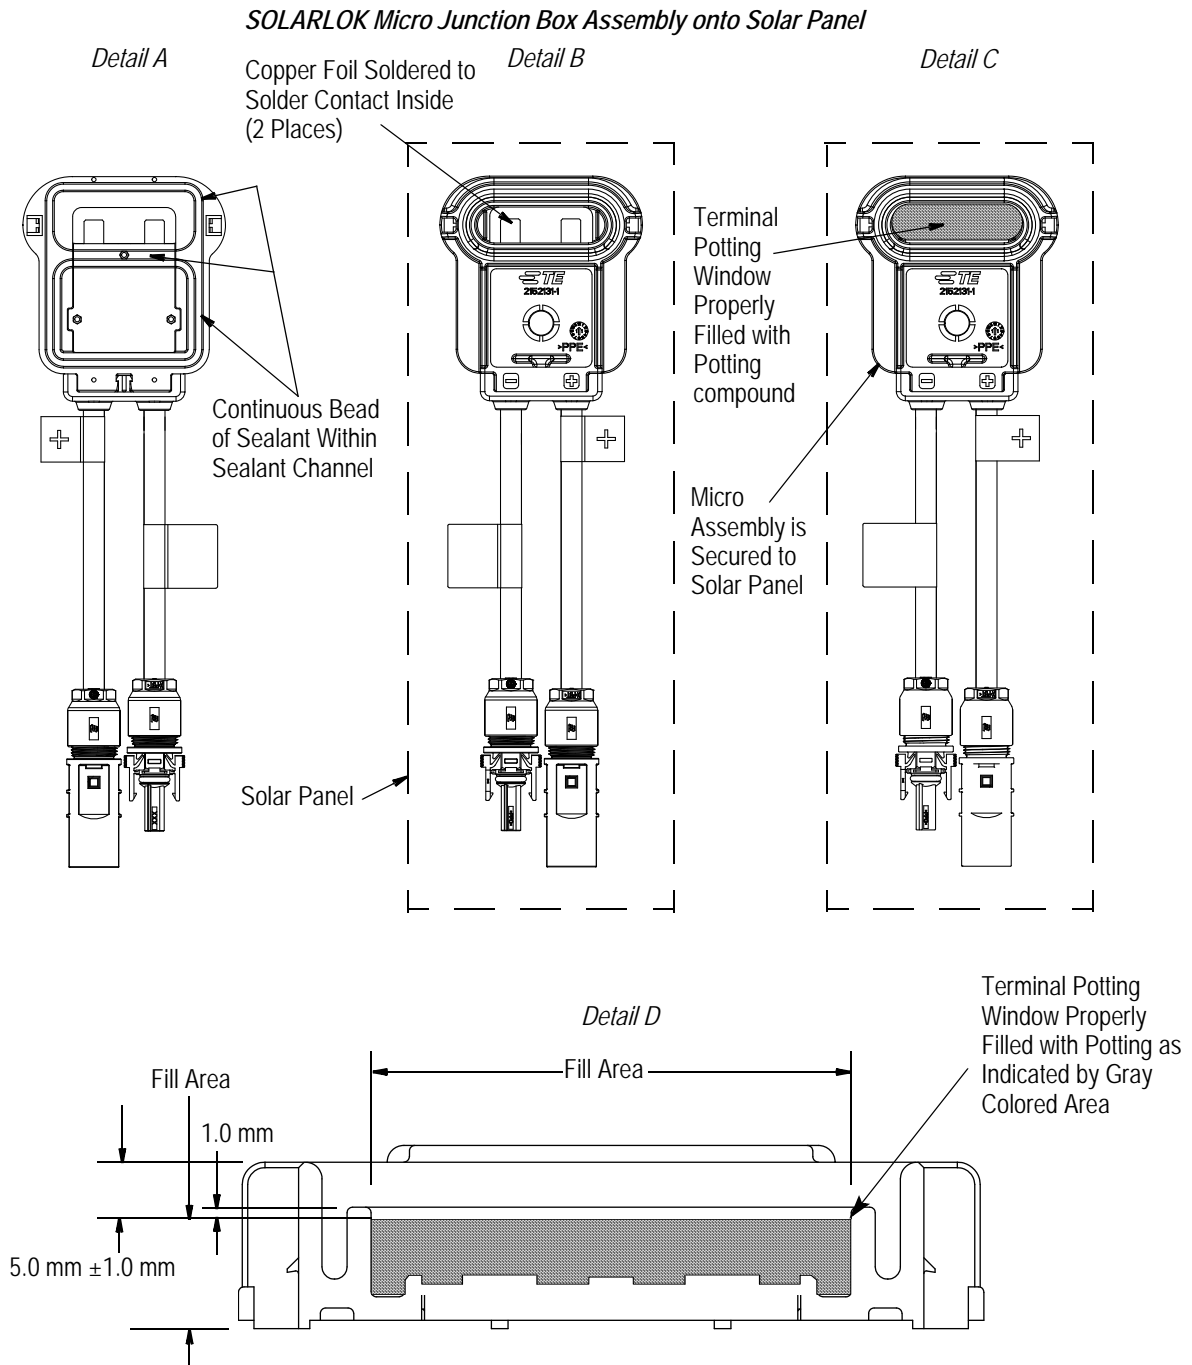

Figure 2
1. The sealant channel of the micro assembly and the attachment area of the solar panel must be dry, oil-free, and free of any contaminants. A continuous bead of a recommended sealant (refer to Section 5) must be applied within the sealant channel. The bead of applied sealant must completely fill the channel and be free of gaps. Refer to Figure 2, Detail A.
2. The housing assembly (not including the cable) of the micro junction box assembly must be secured to the solar panel. The micro assembly must be flat and the centerline of the solder contacts must coincide with the centerline of the panel foils. Refer to Figure 2, Detail B.
4. The panel foils must be soldered to the solder contacts using industry-approved soldering methods. The connections must be tested and approved for electrical continuity. Refer to Figure 2, Detail B.
5. The terminal potting window must be filled with potting compound to within 1 mm of the top of the wall, refer to Figure 2, Detail D, (refer to Section 5 for recommended potting compound). The solder contacts and panel foils must be completely encapsulated with the potting compound. Refer to Figure 2, Detail C and D.